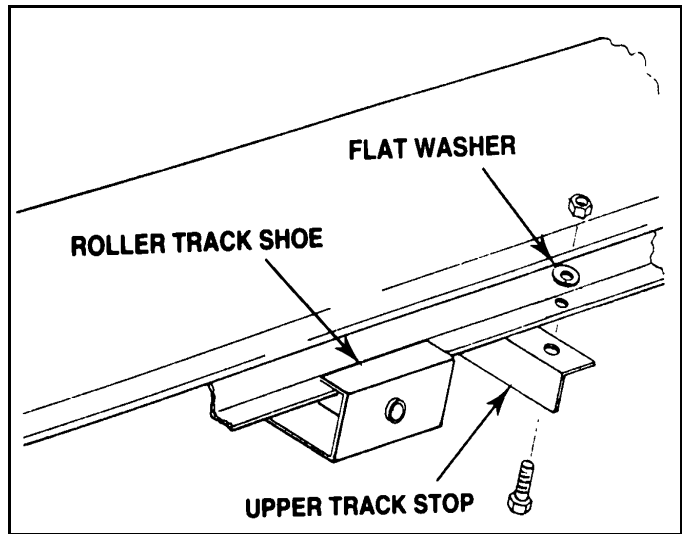

Figure 3.5
2. Attach the upper track stop with 7/16" x 1" bolts, heavy flat washers, and locknuts (Figure 3.5). For correct positioning of the upper track stop, see Table 3.1.